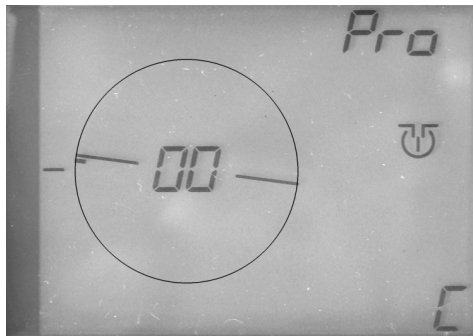

Fig. 11 Create 2nd exit
- Using the **red knob**, turn the **bridge hut symbol** to the position of the next track exit (No. 2), which you wish to put into the *TURN-CONTROL* (Fig. 11).